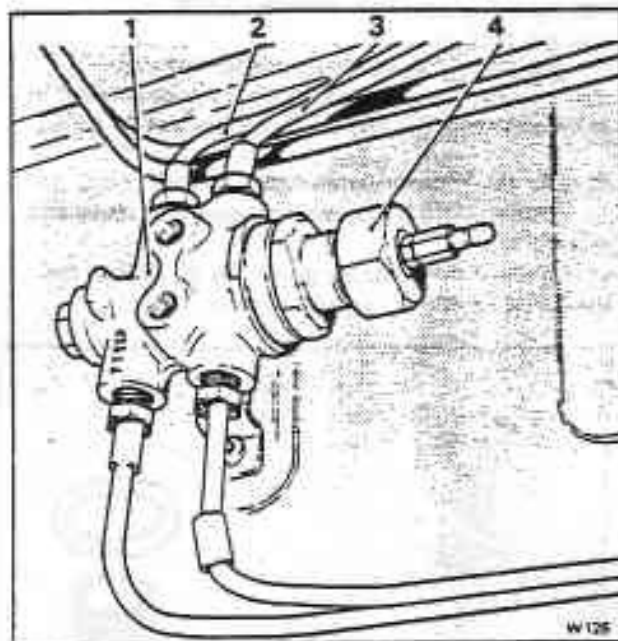

Fig. G11-1 Priority valve/pressure switch
**Priority valve/pressure switch - To remove (see fig. G11-1)**
**Priority valve/pressure switch - To fit (see fig. G11-1)**